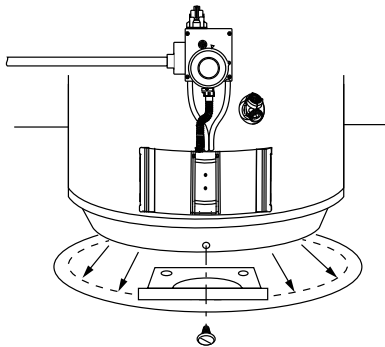

Figure 20: Setting the Water Heater in place.
- 6 Set the water heater in place against the lip of the duct assembly as shown in Figure 20.
5. Vertical and horizontal runs must be securely supported at 3-1/2 foot (1.07 m) intervals. See Figure 20.